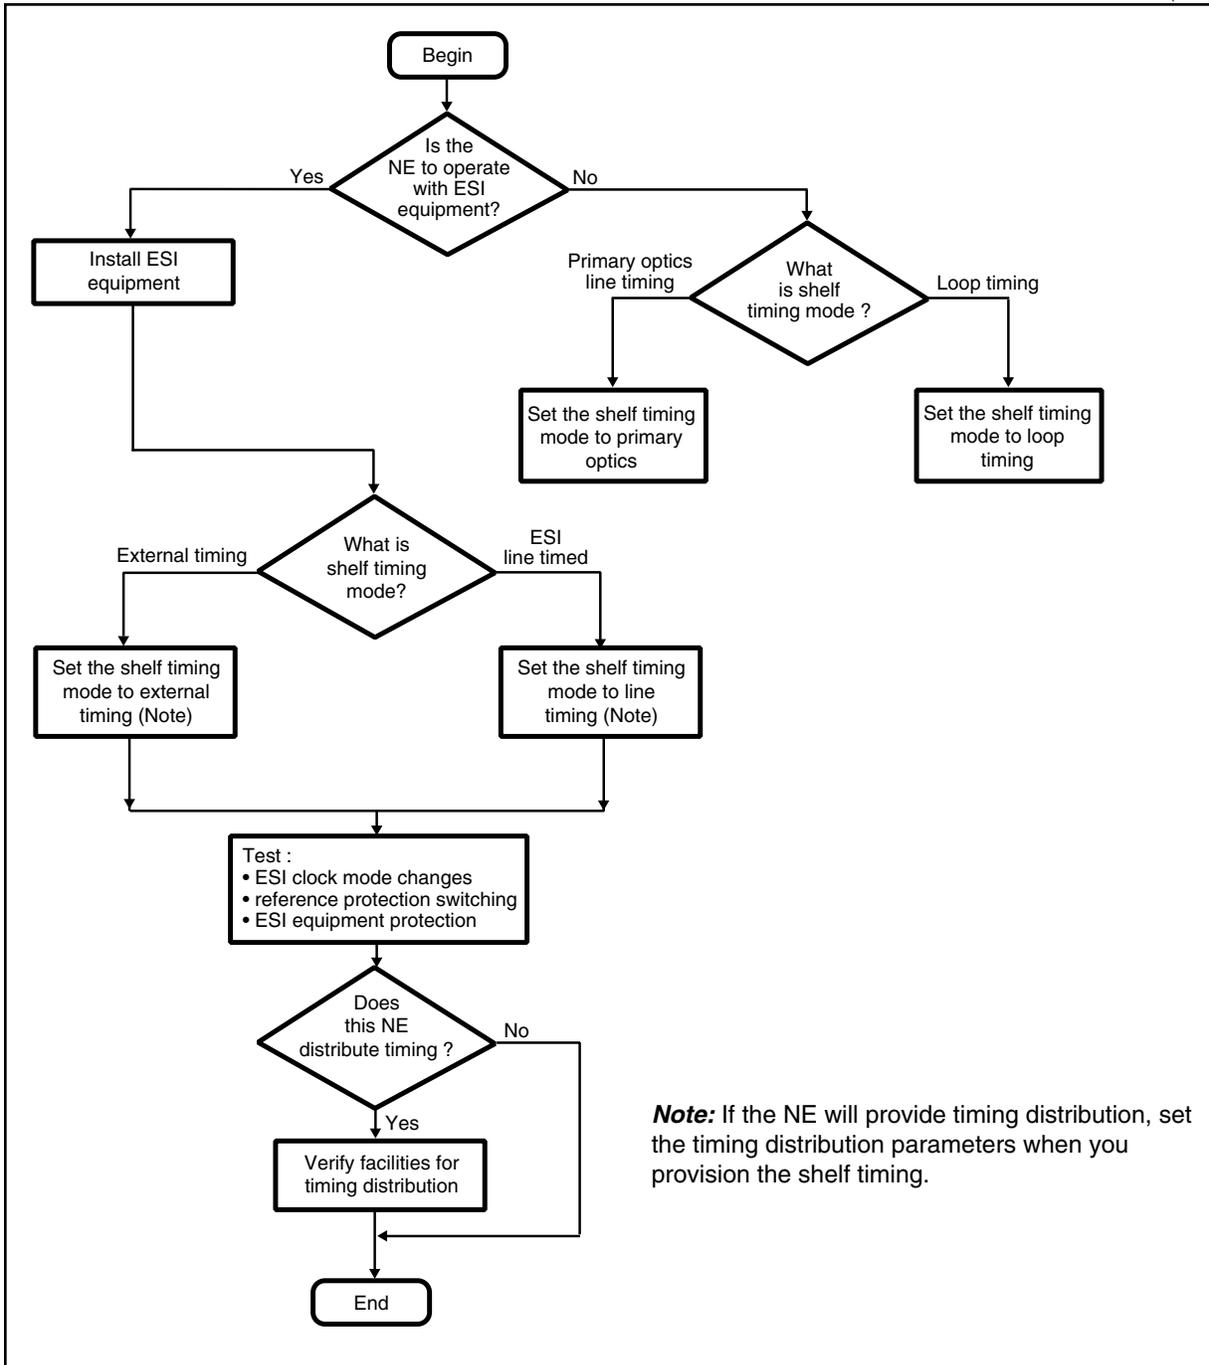

Figure 6-2
- for NWK ring systems, see Figure 6-2 on page 6-6